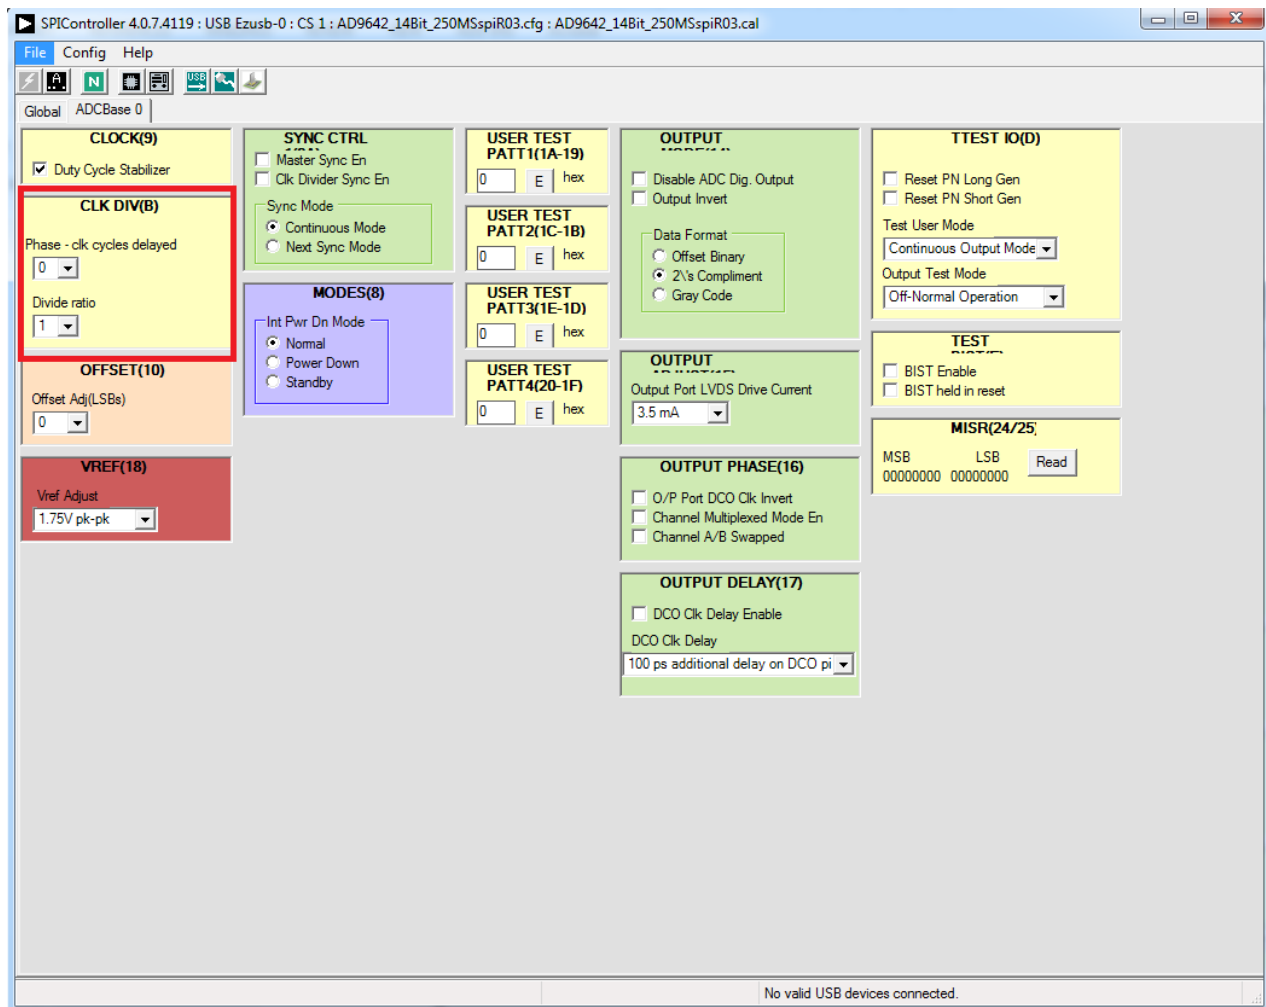

Figure 10. SPI Controller, CLK DIV(B) Section
- In the **ADCBase 0** tab of the **SPIController** window, find the **CLK DIV(B)** section (see Figure 10). If using the clock divider, use the drop-down box to select the correct clock divide ratio, if necessary. See the appropriate part data sheet; the AN-878 Application Note, High Speed ADC SPI Control Software; and the AN-877 Application Note, Interfacing to High Speed ADCs via SPI, for additional information.
Note that other settings can be changed on the **ADCBase 0** tab (see Figure 10). See the appropriate part data sheet; the AN-878 Application Note, High Speed ADC SPI Control Software; and the AN-877 Application Note, Interfacing to High Speed ADCs via SPI, for additional information on the available settings.